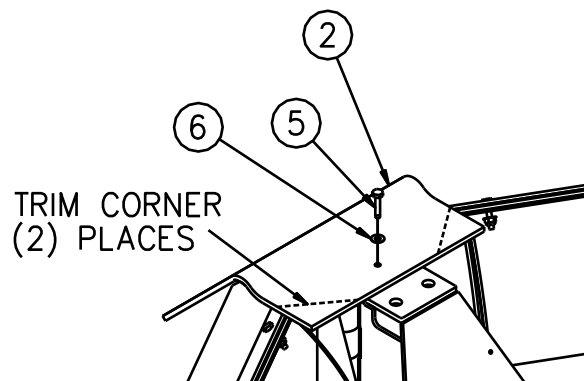

Figure 7. Center Flap Installation G10023
10. Fold Center Belting (2) over the top of the Plow as shown in Figure 7.
11. Drill a hole through Center Belting (2) that is centered and 1-1/2" from the back edge of Center Belting (2). See Figure 7.
12. Using one 1/2" Hex Head Bolt (5) and one 1/2" Flat Washer (6), attach Center Belting (2) to the top of Center Section by utilizing the threaded hole that is located behind the Vertical Hinge Pin.
13. Remove any excess material from the lower back of Center Belting (2) so that it does not interfere with the Plow operation. See Figure 7.